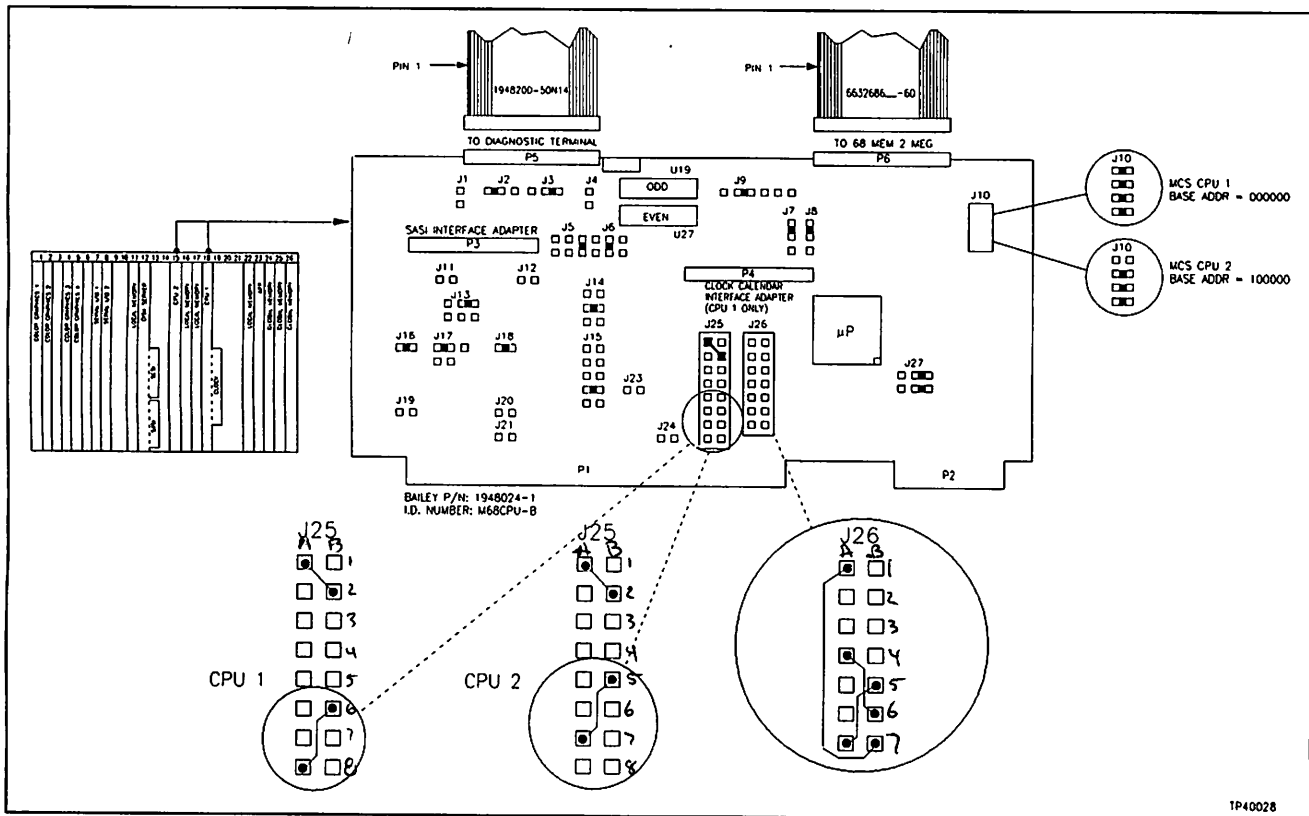

Figure 3-9. CPU Cards 1 and 2
The CPU card can access up to two Megabytes of RAM from the adjacent memory card connected by a ribbon cable. It contains electrically erasable programmable read only memory (EPROM) with a total storage capacity of 64 kbytes, and connection ports to a diagnostic terminal and the clock calendar card. See Figure 3-9 when setting the jumpers on CPU card 1 or 2.
**NOTE:** Figure 3-9 applies only to systems manufactured after February 1, 1986, which have a backplane connected electronic reset switch. Contact your nearest Bailey sales or service office for information on units manufactured before this date.